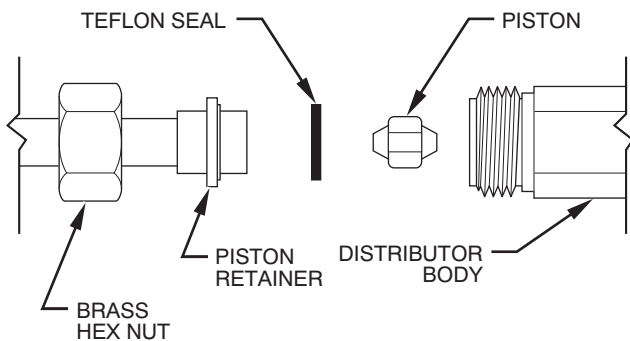

Figure 24 – Refrigerant Flow-Control Device
1. Recover refrigerant from tubing and coil through high flow service port on suction and discharge lines. Disconnect refrigerant (liquid) tube from distributor body. (See Figure 24.)